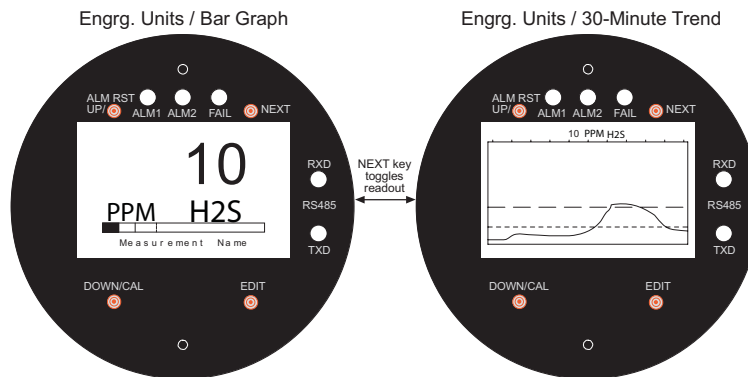

Figure 2-1: Data Displays
**Important:** This manual describes the 2-Wire 4-20mA versions of the ECO-A-X. The unit is a fixed-point monitor designed to provide continuous monitoring of hazardous gases in the workplace. Monitored values are displayed in their engineering units as well as graphically as a bar graphs or 30-minute trends (Figure 2.1). Input is for the electrochemical toxic sensor which is supplied by the factory. The ECO-A-X advanced microcontroller electronics and superior graphic LCD operator interface offers enhanced diagnostics and fault analysis not possible in competing products. The unit provides a standard 4-20 mA output signal for connection to control systems or other alarm instrumentation. Non-volatile memory retains all configuration data during power interruptions. Magnetic, non-intrusive calibration can be easily performed by one person without opening the enclosure. A standard “real time clock & calendar” feature allows data logging of calibrations and alarm events for recall to the LCD readout.
Only periodic calibration checks are needed to assure dependable performance. Operator interface is very intuitive with the LCD displaying data both graphically as bar-graphs / trends and in engineering units (Figure 2-1). Additional features include: